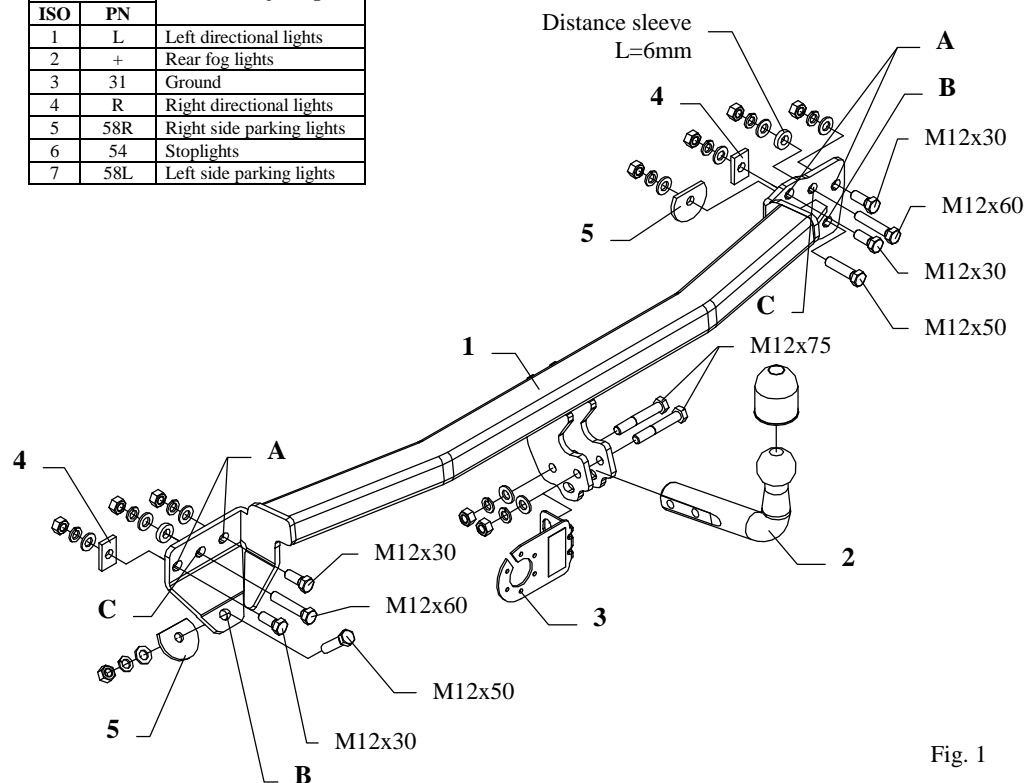
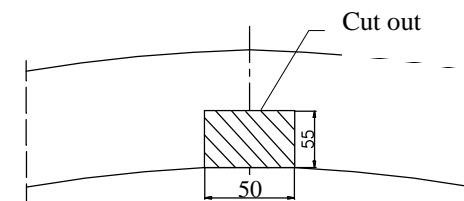

Fig. 1
Fig. 3
2. Unscrew the metal part of the bumper and then remove four bolts from points (pos. A, see the fig. 1) (use the angular polishing to remove). In the axis of symmetry cut out the fragment 50x55mm, as shown on the fig. 3.
3. Apply the main bar of the towbar (pos. 1) to the back piece and fix through holes (pos. B) using bolts M12x50mm (pos. 9) together with truncate washer (pos. 5).
4. Place four bolts M12x30mm (pos. 10) in holes (pos. A) – do not fix!
5. Through holes (pos. C) drill holes $\varnothing 13\text{mm}$ and then fix with bolts M12x60mm (pos. 8). Use distance sleeves (pos. 6), as shown on the fig. 1.
6. Remove bolts M12x30mm (pos. 10) from holes (pos. A) and then apply the metal bumper and fix with washer (pos. 4) using bolts M12x30mm (pos. 10).
8. Fix tow-ball (pos. 2) with socket plate (pos. 3) using bolts M12x75mm (pos. 7) from accessories.